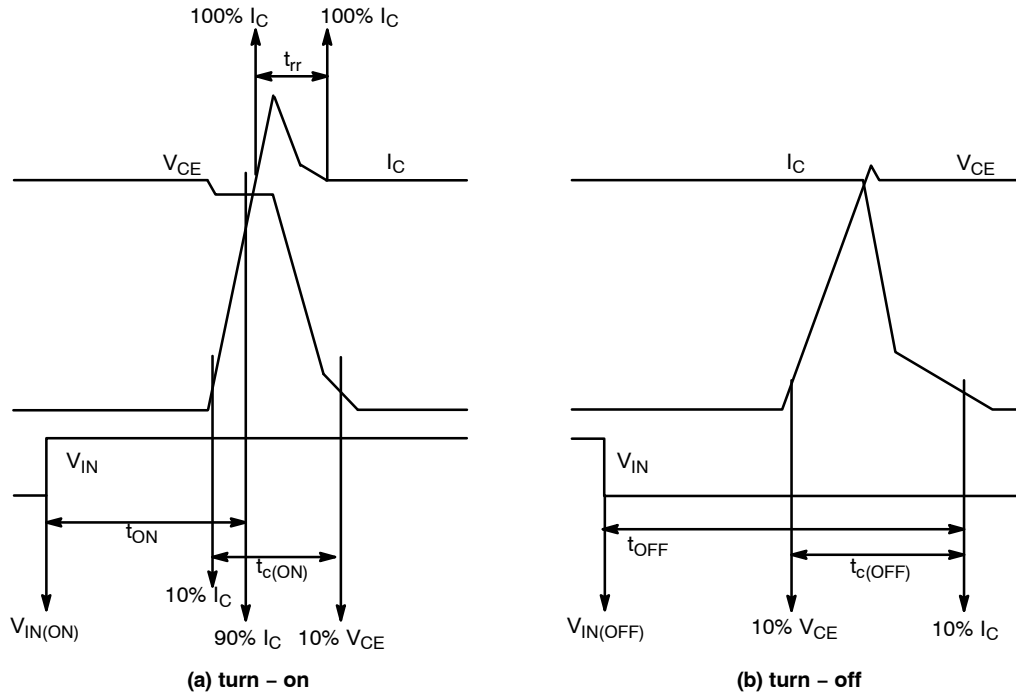

Figure 4. Switching Time Definition
4. t_{ON} and t_{OFF} include the propagation delay of the internal drive IC. $t_{C(ON)}$ and $t_{C(OFF)}$ are the switching time of IGBT itself under the given gate driving condition internally. For the detailed information, please see Figure 4.